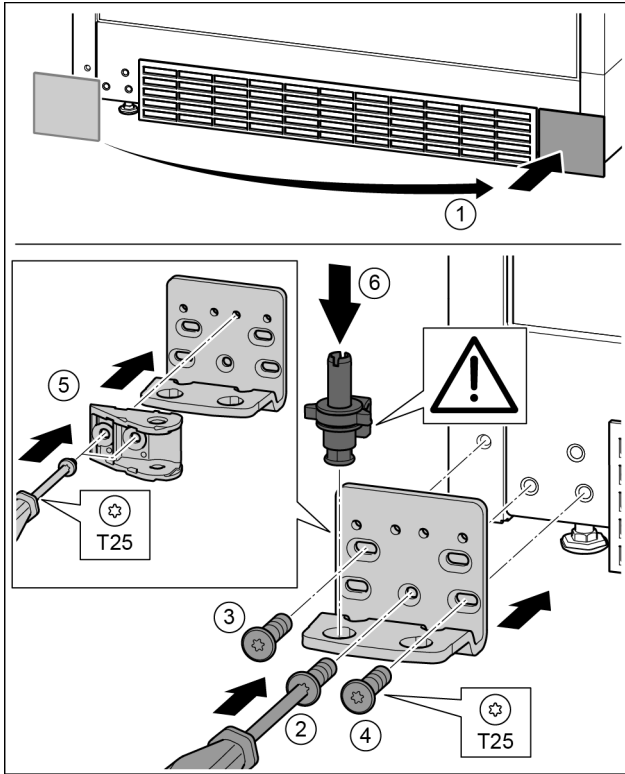

Fig. 32
- ▶ Remove the cover and fix it on the other side. Fig. 32 (1)
- ▶ Place the bearing bracket on the other side and screw in with the aid of a T25 screwdriver. Start with screw 2 at the bottom in the middle. Fig. 32 (2)
- ▶ Screw in screws 3 and 4. Fig. 32 (3, 4)
- ▶ Rotate the soft stop connection 180°. Screw in with a T25 screwdriver on the other side of the bearing bracket. Fig. 32 (5) *
- ▶ Insert the bearing pin completely. Make sure that the catch mechanism is pointing to the rear. Fig. 32 (6)